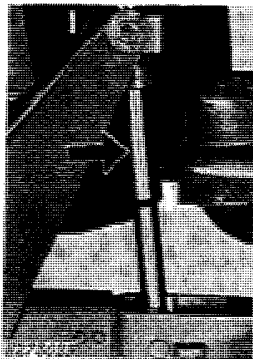

Fig. 3-Leveling Cylinder
3. Remove protective paper from leveling cylinders and tape from fluid reservoir (Figs. 3 and 4). Remove plastic wrapping from platform lift cylinders.